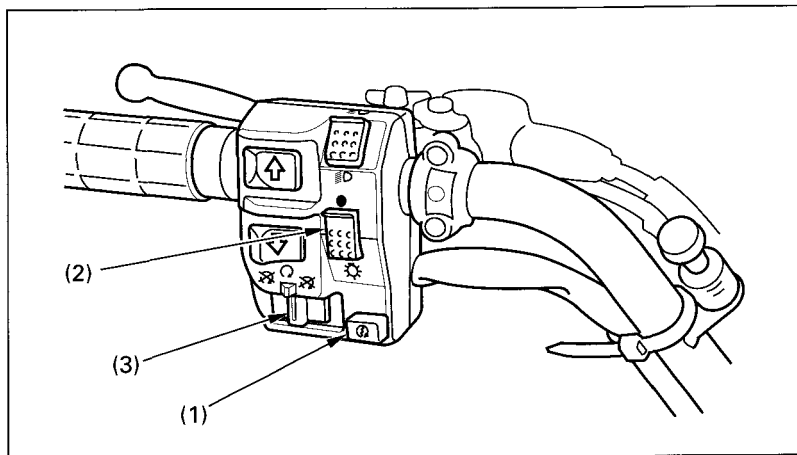

Fig. 2-8 (1) Starter button
The starter button (Fig. 2-8) is below the headlight switch (2). To start the engine, press the starter button (1), with the transmission in neutral, the ignition switch ON (I) and the engine stop switch (3) at RUN (O).